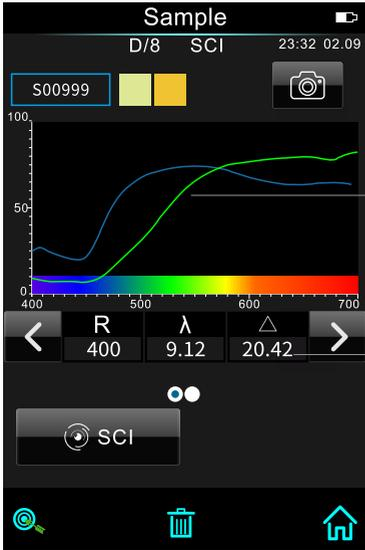

Figure 15 Sample Reflectivity 1
In the "Standard measurement" interface, click "Sample measurement" to enter Sample Measurement interface. It is the same steps with standard measurement. After measurement, it will display as shown in figure 14, figure 15, and figure 16, detail explanation as follow:
- 7)Sample reflectivity: display both standard and sample reflectivity curve at the same time. Blue represents standard, and green represents sample, as shown in Figure 15. Some models of the instrument do not have this function and only display part of the reflectivity, as shown in Figure 16.
- 8) reflectivity Difference : The difference between sample and standard under the current reflectivity. As shown in figure 15, click   ,The wavelength, reflectivity, and reflectivity difference of the sample and standard are switched at an interval of 10nm. Partial models of instruments do not have this function, and only display part of the reflectivity and light wavelength, as shown in Figure 16.